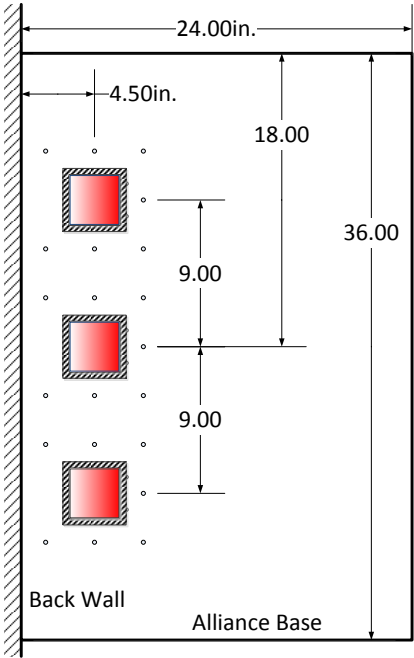

Figure 2: Retainer placement in each base.
- c. Retainers will be placed as shown in Figure 2. They will be 9 inches apart, center to center and from the edges of the base. Each retainer will be spaced 4.5 inches from their center to the back wall.